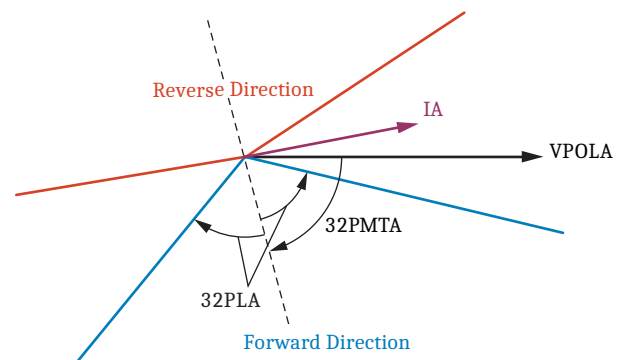

Figure 23 Operating Characteristic of the 32P Directional Element
- The element provides the maximum torque angle and the limit angle settings for the forward characteristic (see Figure 23). The reverse characteristic uses the same maximum torque angle and the limit angle of the forward characteristic, increased by a small margin for coordination.